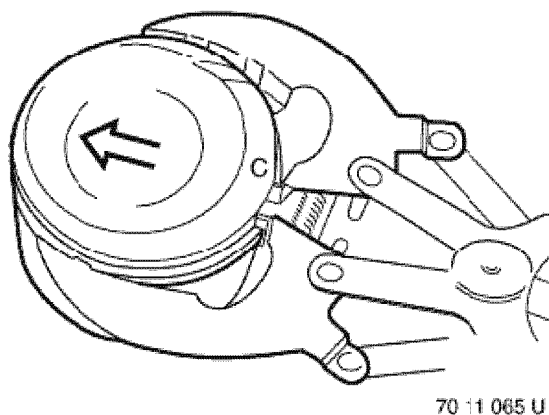

Figure 5-49
- Use a piston ring expander (Figure 5-49) to remove the piston rings, taking care not to scratch the surface of the piston.